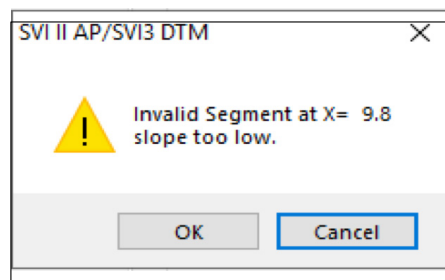

Figure 65 - Invalid Segment Dialog
3. Enter values in the *Input Signal* and *Valve Position* fields from lowest to highest. If there is too drastic a slope change a dialog appears (Figure 65). Adjust values accordingly.